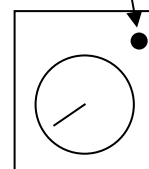

Figure 1
5. After the chamber pressure arrival you set-up. The LED of sterilization timer (See figure 1) turn to “flash” that means the sterilization timer starts work Then the LED light on. This means the sterilization timer finished working then starts the dry timer.